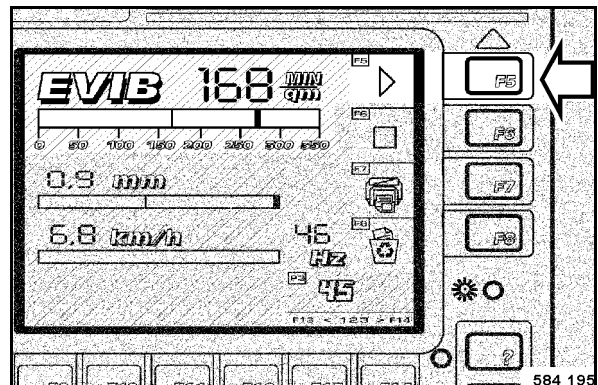

Fig. 97
- When mark 1 is reached, press button F5 "START" (Fig. 97).